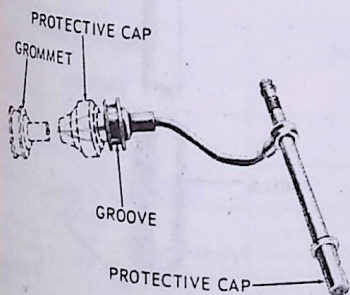

FIG. 91
Install a new grommet (Fig. 91) before-reinstalling an injection nozzle.
2. Lubricate the exterior surface of cap. Pull grommet over cap in the direction indicated by the arrows (Fig. 91).